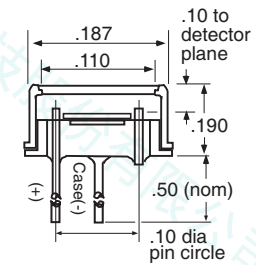

Figure 8
Judson offers a variety of convenient packages for room temperature and thermoelectrically (TE) cooled operation. Typical power requirements for the TE2, TE3 and TE4 coolers are shown in Figures 8, 9 and 10 on page 5. The built in thermistor can be used to monitor or control the temperature. Figure 6 shows typical thermistor resistance vs. temperature values. Sensitivity and cutoff wavelength are functions of temperature. Detector temperature should be optimized for a particular application.